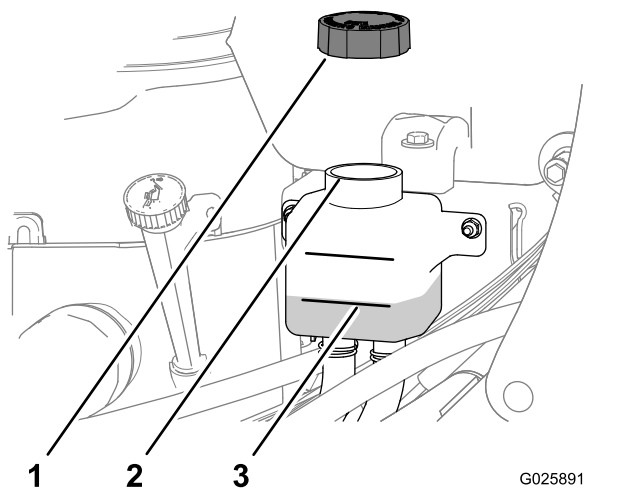

Figure 64
4. If necessary, add the specified transmission fluid until the fluid level is at the Full Cold line of the expansion tank (Figure 64).
3. Remove the cap from the expansion tank and check the hydraulic-fluid level in the tank (Figure 64).